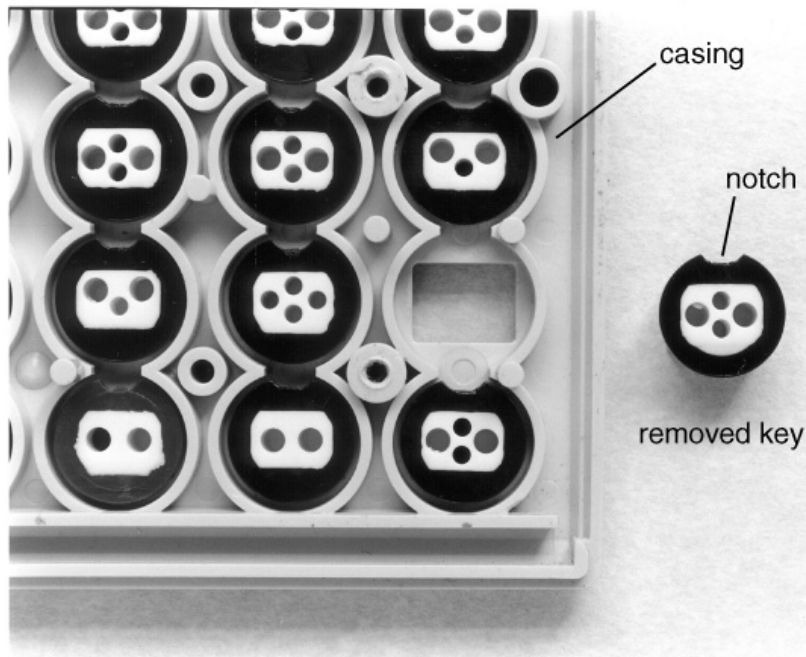

Fig. 7
- (c) Fig. 7 shows a key removed from the 1985 calculator keypad.